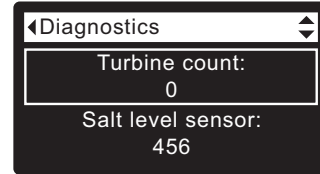

FIG. 158
2. Press the DOWN (▼) button to scroll through the list until **Turbine Count** is displayed (See Figure 158).